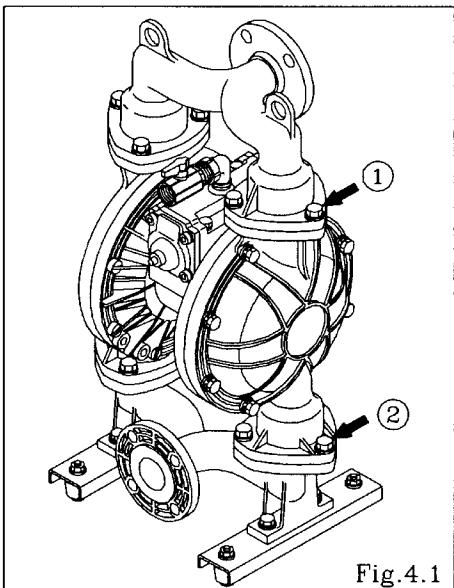

Fig.4.1
See [9. Exploded View] on after p. 13. (Fig. 4.1, 4.2 and 4.3 show the NDP-50 BS_.)
- Remove the 6 (8 on the NDP-80) retainer bolts "1" from the out manifold, and remove the out manifold. [Fig.4.1]
- Remove the 6 (8 on the NDP-80) retainer bolts "2" from the in manifold, and remove the in manifold. [Fig.4.1]